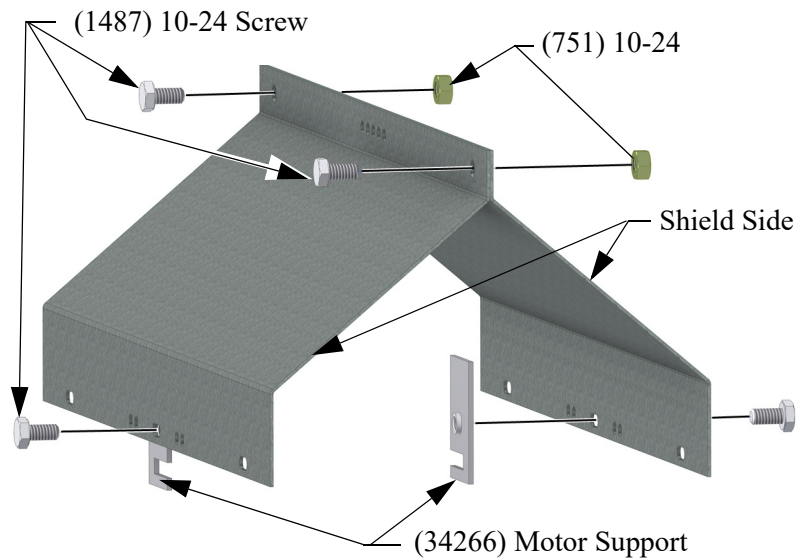

Figure 33.Litter Shield Installation
2. Using the 10-24 screws (1487) provided, loosely fasten a Motor Support (34266) to each Shield Side. (See Figure 33.). Note: The Motor Supports include weld nuts. Install the tabs so that they face opposite directions when secured to the Shield Sides.
3. Fasten Side Shields together with 1/4-20 Screws (1487) and 1/4-20 Hex Nuts (751) as shown.